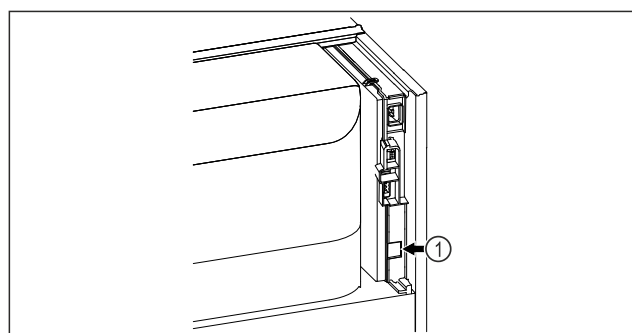

Fig. 147
- SmartModule Fig. 147 (1) is in use.